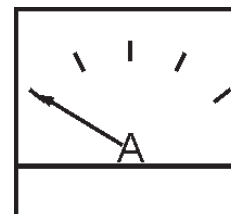

Figure 53. Ammeter (No Load)
13. The ammeter (Figure 53) will indicate zero amps with no load applied. When a load is applied, the ammeter will indicate the amount of current that the load is drawing from the generator.